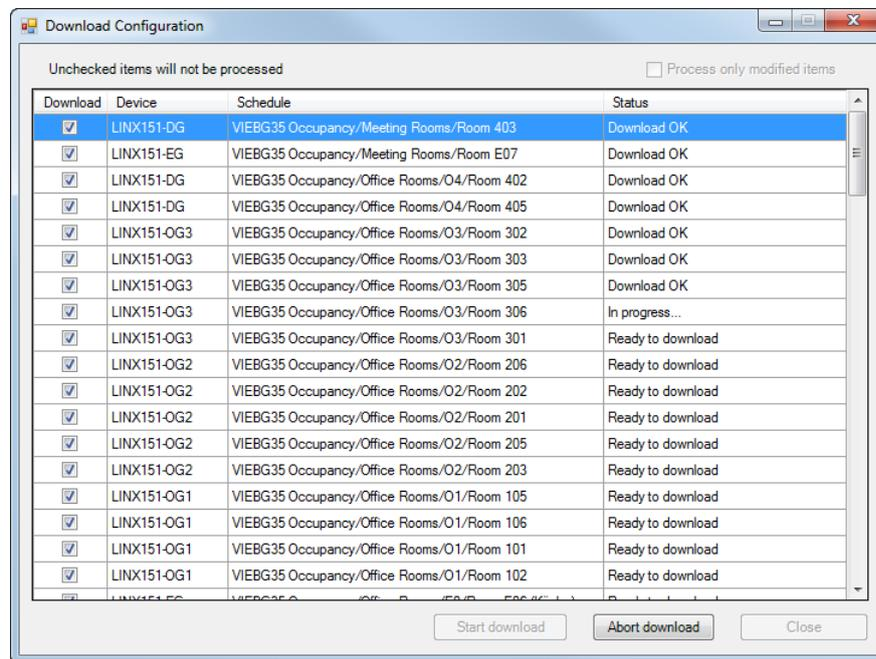

Figure 130: Master Schedule Download
2. The download dialog is shown in Figure 130. If the checkbox **Process only modified items** is selected, only the schedulers which have been modified since the last